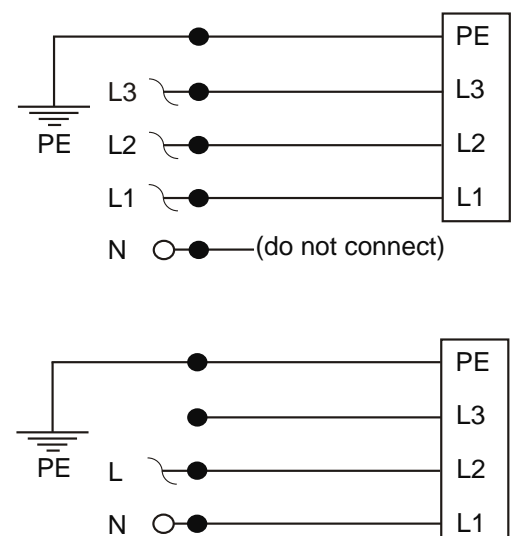

fig. 4 - 2
- The unit can operate on a single phase or a 3 phase grid (see fig. 4 - 2), see the chapter 'Specifications' for the minimum and maximum values.